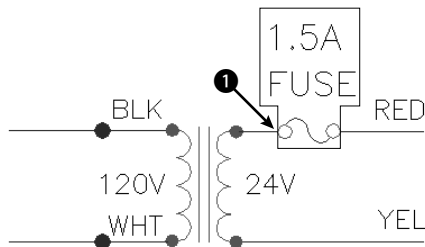

Figure 18-4: A portion of an electrical schematic.
2. Save the file as `ab18-01.dwg` in your AutoCAD Bible folder. This is a small portion of an electrical schematic drawing, as shown in Figure 18-4. OSNAP should be on. Set running object snaps for endpoint, quadrant, and intersection.
6. Select the boxed objects shown in Figure 18-4 (the two lines of text, the two circles, and the two arcs). Press Enter to end selection and return to the dialog box. Under the Select Objects button, the dialog box displays `6 objects selected`.
8. In the drawing, use the Quadrant object snap to pick ❶ in Figure 18-4.